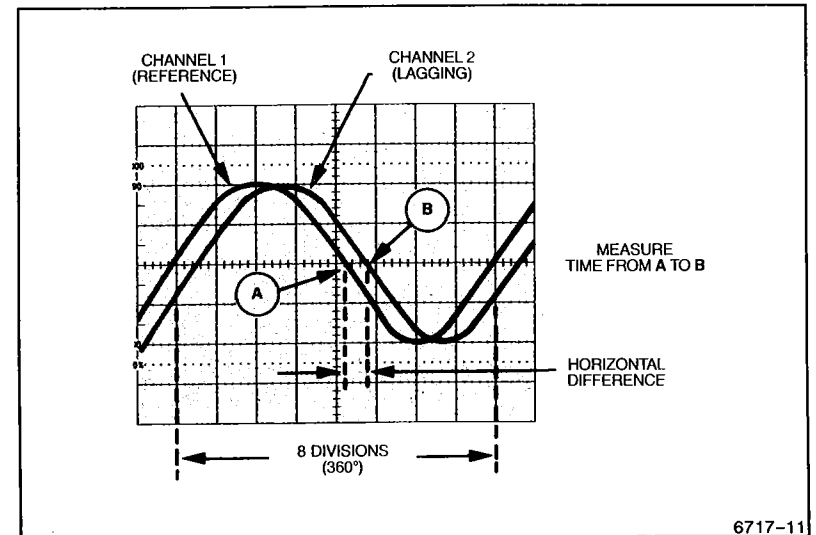
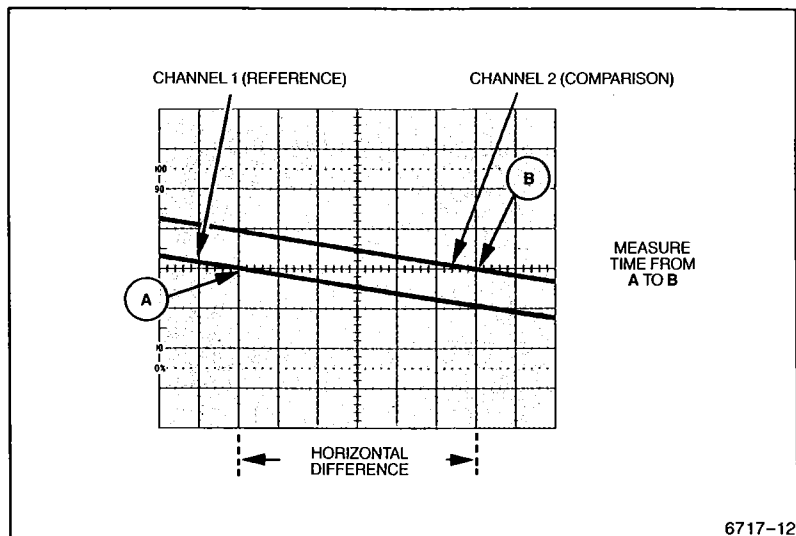

Figure 3-8. Phase difference.
Figure 3-9. High-resolution phase difference.
9. Position the displays and adjust the SEC/DIV Variable (CAL) control so that one cycle of the reference signal occupies exactly eight horizontal graticule divisions at the 50% rise-time points (see Figure 3-8). Each horizontal division of the graticule now represents 45° of the cycle (360° divided by 8 divisions), and the horizontal graticule calibration can be stated as 45° per division.
EXAMPLE. In Figure 3-8, the horizontal difference is 0.6 division with a graticule calibration of 45° per division.
With the sweep speed increased 10 times (MAG set to X10), the magnified horizontal graticule calibration will be 4.5° per division ($45^\circ/\text{division}$ divided by 10). Figure 3-9 shows the same signals illustrated in Figure 3-8, but horizontally magnified by a factor of 10.
EXAMPLE. In Figure 3-9, the 10X magnified display results in a horizontal difference of six divisions between the two signals.